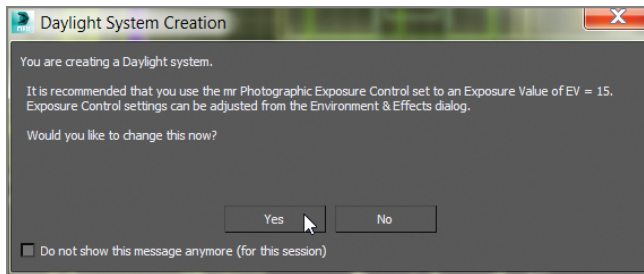

FIGURE 16.28 The Daylight System Creation warning
3. A Daylight System Creation warning will appear, as shown in Figure 16.28, asking if you want to change the exposure controls to suit the Daylight System. Click Yes.